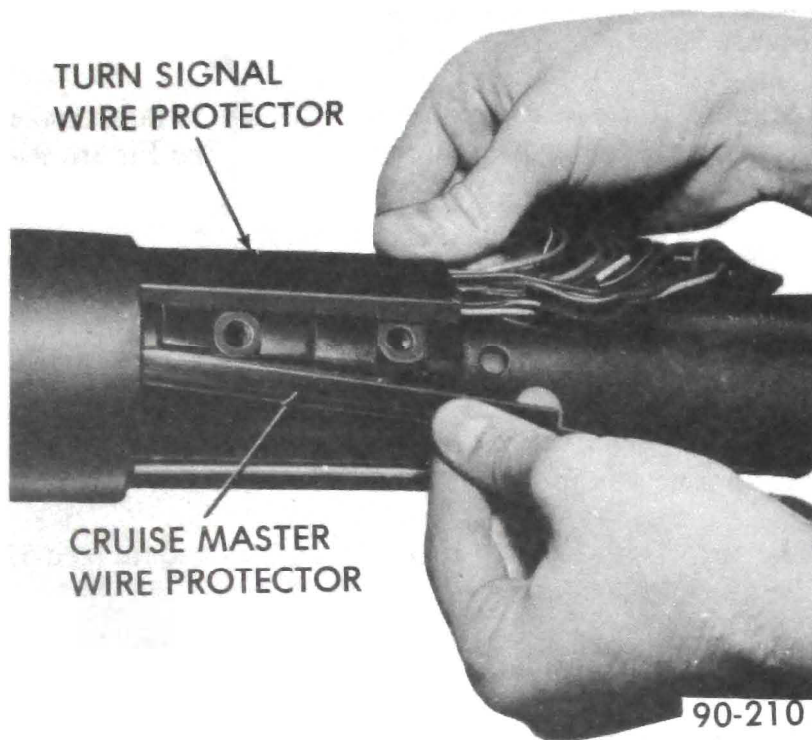

Figure 90-110 - Signal Switch Wire Protector
4. Remove signal switch wire protector. See Figure 90-110.